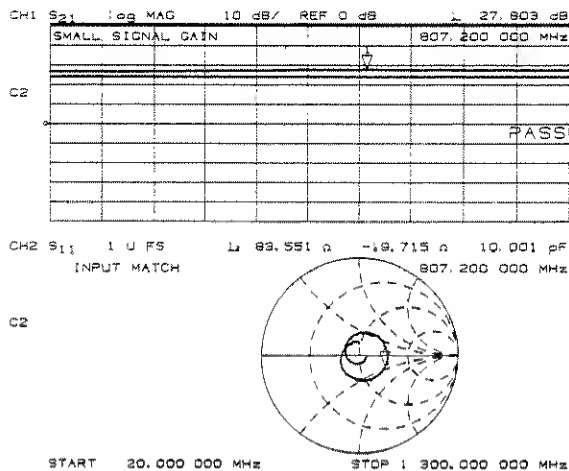

Figure 1. Display of amplifier gain and input match
**AMP1.** This sequence recalls measurement parameters from instrument state reg 1 and performs a limit test of amplifier small signal gain, while simultaneously displaying amplifier input match in a Smith chart format. If the limit test passes, this sequence will call sequence position 2 (AMP2). If the limit test fails, it will branch to a tuning sequence that will allow device tuning and an opportunity for retest. The resulting display is shown in figure 1.